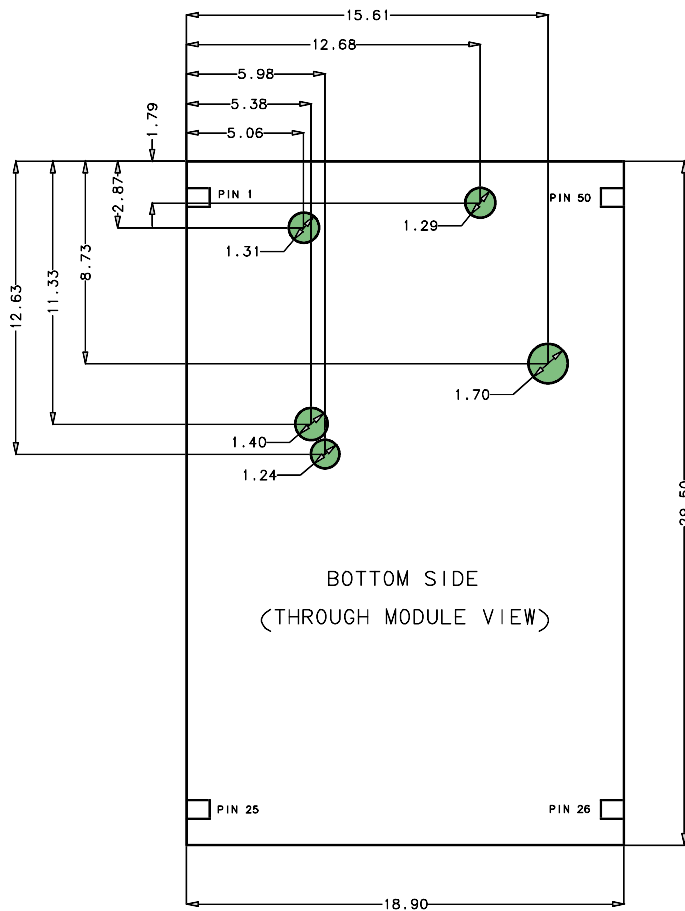

Figure 38: Signals keep-out below data module on application motherboard due to GND opening on data module bottom layer for internal RF signals
2. Signals Keep-Out below module on Application Motherboard due to GND opening on LEON-G100/G200 bottom layer for internal RF signals (see Figure 38).